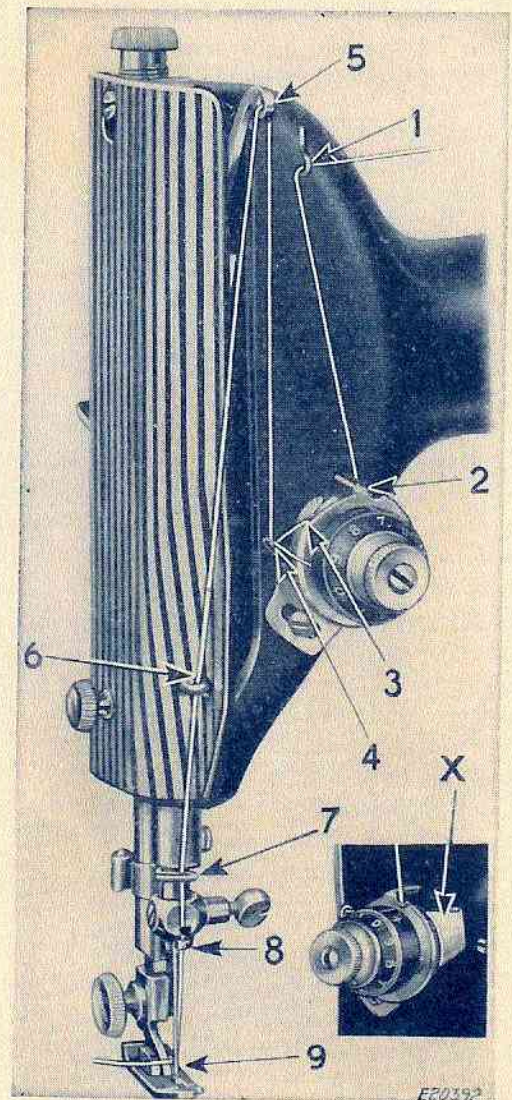
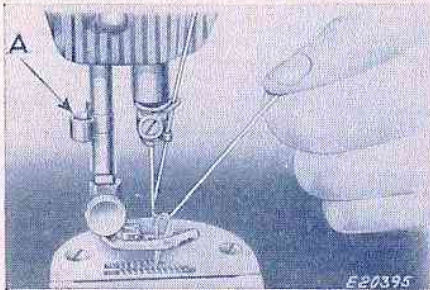
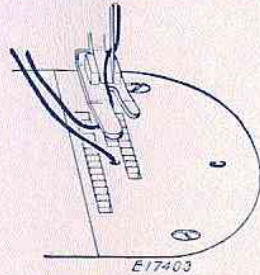

FIG. 12. UPPER THREADING
FIG. 13. DRAWING UP BOBBIN THREAD
FIG. 13A. THREADS IN POSITION TO COMMENCE SEWING
(SEE FIG. 12)
Turn the balance wheel over toward you until the thread take-up lever (5) is raised to its highest position. Place the spool of thread on the spool pin at the top of the machine and pass the thread to the left through the thread guide (1), down, under and from right to left between the tension discs (2), the thread guard (X) guiding the thread between the discs. (See insert in Fig. 12). With the right hand, hold the spool to prevent it from turning, and, with the left hand, draw the thread up into the take-up spring (4) until the thread enters the retaining fork (3), then pass the thread from right to left through the hole in the thread take-up lever (5), down through the guide (6) on the face plate, into the wire guide (7) on the needle bar bushing, into the guide (8) on the needle clamp and **from right to left** through the eye (9) of the needle.
Turn the balance wheel over toward you until the needle moves down and up again to its highest position, thus catching the bobbin thread. Draw up the needle thread and the bobbin thread will come up with it through the hole in the throat plate, as shown in Fig. 13. Lay both threads back under the presser foot diagonally across the feed, as shown in Fig. 13A, to the right or left, depending upon which side of the needle the material is to be located, so that when the presser foot is lowered, the threads will be firmly held between the feed and the presser foot.
Stop the machine with the thread take-up lever (5, Fig. 12) at its highest position, raise the presser foot and draw the fabric back and to the left, pass the threads over the thread cutter (A, Fig. 13) and pull down lightly to sever them. Leave the ends of the threads under the presser foot.